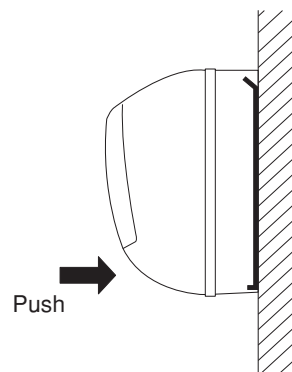

Fig. 33
- (1) To install the indoor unit, mount the indoor unit onto the 3 tabs on the upper part of the rear plate.
- (2) Hold down the air discharge outlet and press the lower part of the indoor unit until it clicks to securely fasten to the 2 tabs on the lower part of the rear plate. (Fig. 33)